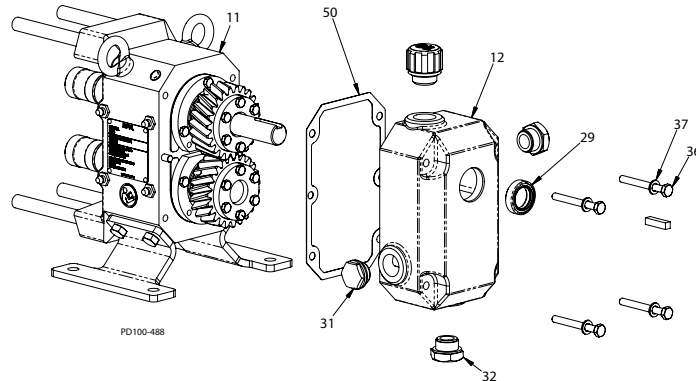

Figure 36 - Remove Gear Case Cover
3. Remove the cap screws (Figure 36, item 36) and washers (item 37) and remove the cover (item 12).
4. Remove the input shaft seal (item 29) from the gear cover and discard it.
5. Inspect the level indicator plug (item 31) and replace it if it appears cloudy or stained.
6. Remove the gasket (Figure 36, item 50) and discard it. Carefully scrape any gasket residue from the mating surfaces of the gear cover (item 12) or gear case (item 11).